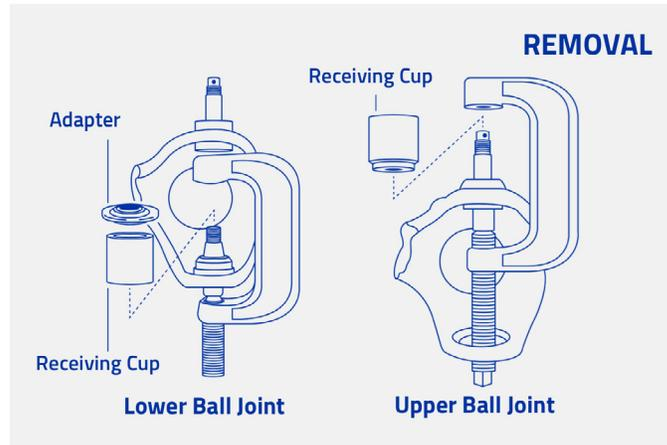

Figure 5
Step 9 – Remove the upper ball joint from the knuckle, utilizing a ball joint press and appropriate receiving cups and adapters. (Figure 5)